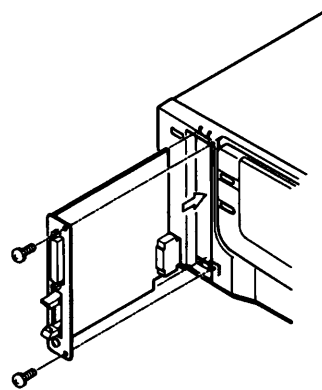

Fig. 2
- ▶ Step 3 Orient the interface board so that the parts-mounted side of the PCB is at the right, and place the PCB into the slot grooves. (See Fig.2)